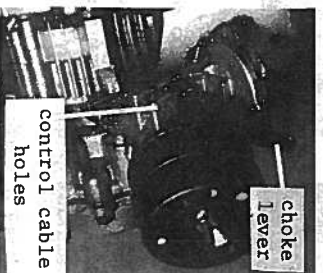
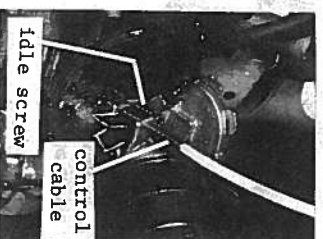

FIG. 10
FIG. 11
- b. Place end of throttle control cable into holes in carburetor boss (figure 10, 11). Insert until center wire contacts throttle lever firmly (figure 11). Position grooved side of clamp toward throttle control cable, secure (figure 11).
- b. Engine idle is adjusted by turning screw under diaphragm (figure 10, 16), also work with needle valve to establish satisfactory idle. Make carburetor adjustments after engine has warmed-up. Control cable must make firm contact with throttle lever on carburetor to establish accurate adjustment.